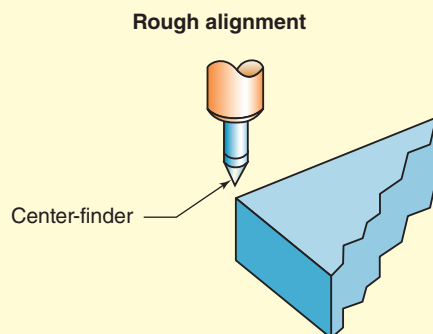

Figure 24-5 A center-finder (or even a precision pointer) saves time.
1. **Rough Alignment** Using a precision ground pointer or better yet a center-finder, one can bring the position quite close to alignment (Fig. 24-5). Sometimes, if there's enough rough stock on the work, this may be accurate enough to position the spindle. If not, this operation saves time by prealigning for the more accurate methods.